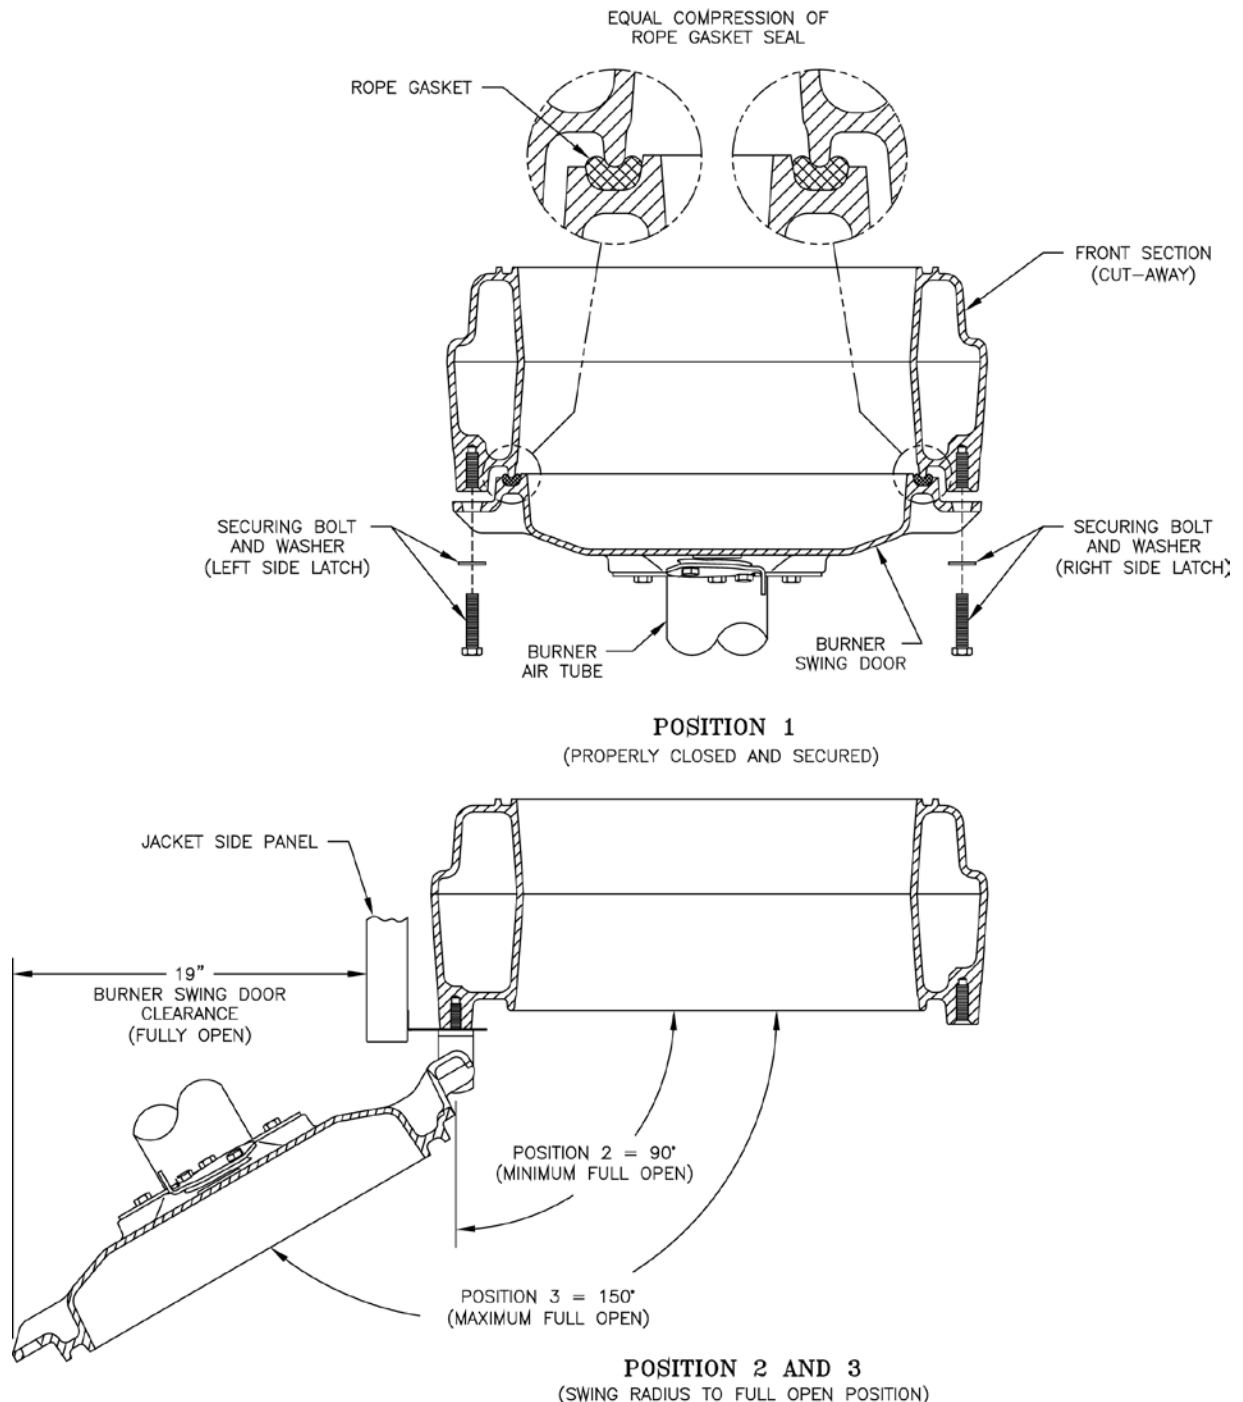

Figure 5B: Top View - Burner Swing Door Mounted to Cast Iron Block Assembly (Jacket Removed for Clarity)
- d. Use a hand or socket wrench to tighten door hardware. ALWAYS START WITH RIGHT SIDE TAP BOLT FIRST. Use an alternating tightening method from right side tap bolt to left side tap bolt to tighten door equally, until sealed, without applying excessive torque. NEVER TIGHTEN LEFT SIDE TAP BOLT FIRST, OR, EITHER PIECE OF HARDWARE 100% WITHOUT USING THE ALTERNATING METHOD DESCRIBED ABOVE. See Figure 5B.